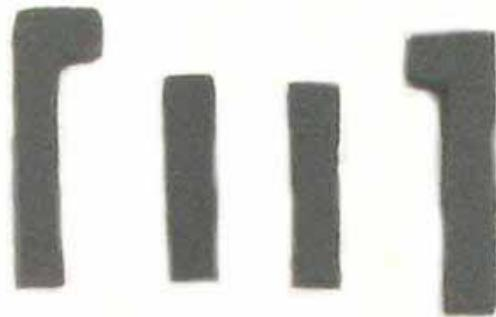

Figure 10-9: GUI Dust Gaskets
3. Separate the GUI dust gasket parts (Figure 10-9).